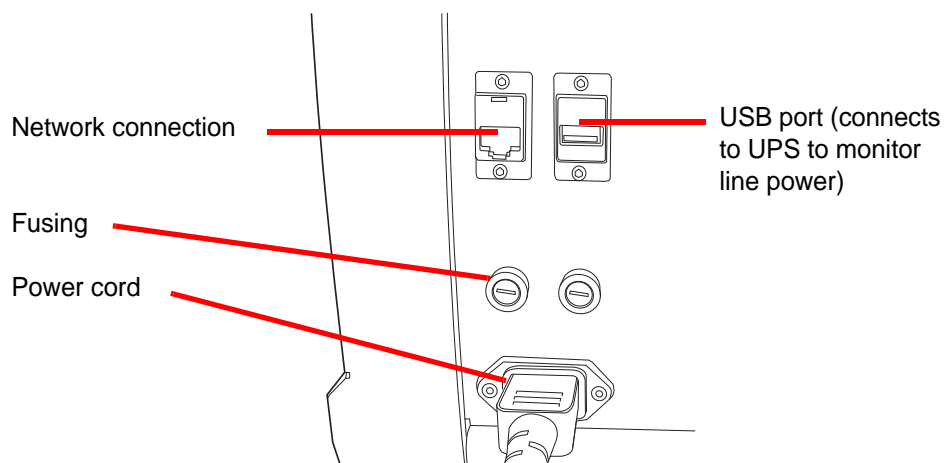
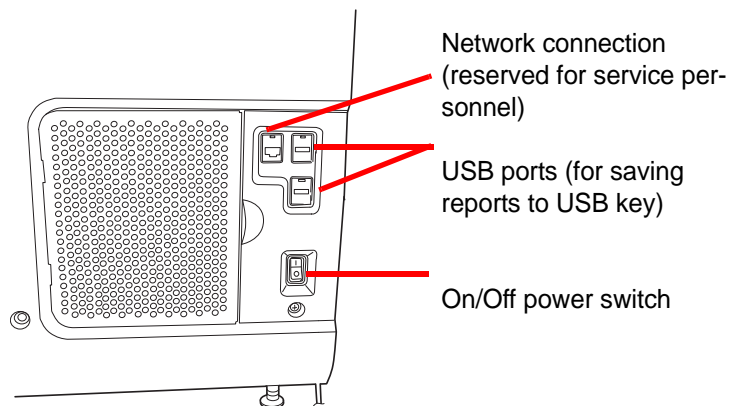

Figure 2-3 Rear of ThinPrep® 5000 Processor
Figure 2-4 Power Switch
Make sure the power switch is off. Then insert the power cord into the receptacle on the rear of the instrument (Figure 2-3). The processor comes with a UPS (uninterruptible power supply). The instrument’s power cord is plugged into the UPS. Plug the UPS power cord into a grounded outlet.
**CAUTION:** Do not power on the processor while a USB key is in any of the USB ports. See Figure 2-3 and Figure 2-4 for USB port locations.
Press the rocker switch located on the lower right side of the processor to the on position. See Figure 2-4.